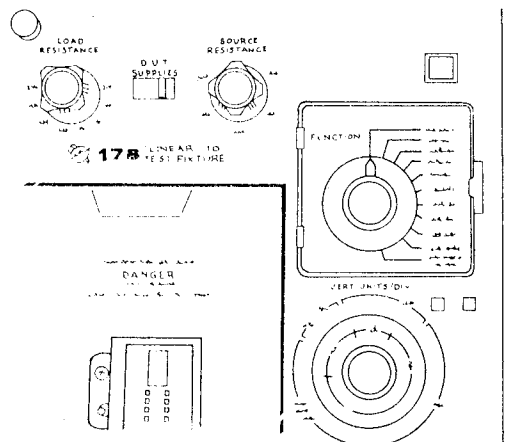

Figure 0-2 Installing nomenclature panel
- 2) Install AMPLIFIER nomenclature panel on FUNCTION SWITCH. If panel is not in place around FUNCTION switch, install it now. See Figure 0-2. **(A)**